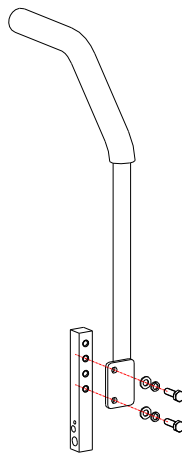

FIG 2 Right Motion Control Lever Assembly
b) Place the right control lever to the outside of the control arm shaft, insert the bolts into the holes with flat washers and spring washers and tighten them. (See Figure 2)